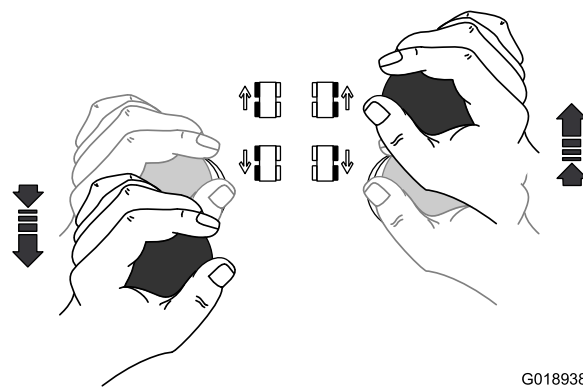

Figure 40
- To turn the machine **left**, grasp the both traction-control levers with your hands and pull the left, traction-control lever backward, and push the right, traction-control lever forward (Figure 40).